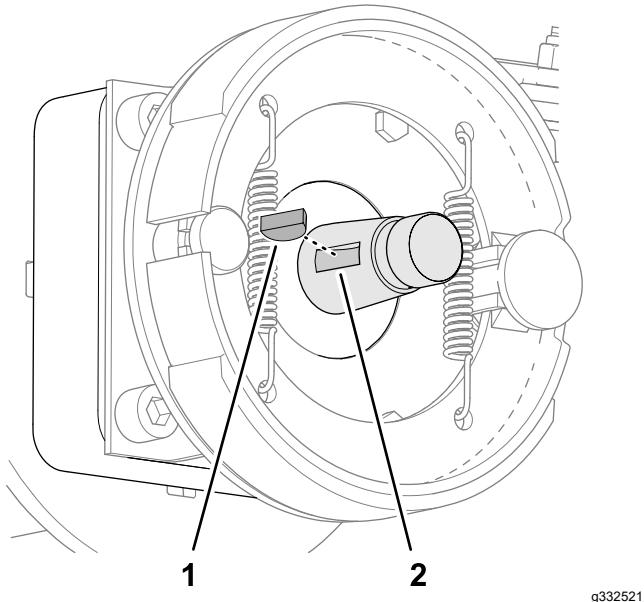

Figure 63
5. Remove woodruff key from the wheel-motor shaft (Figure 63).